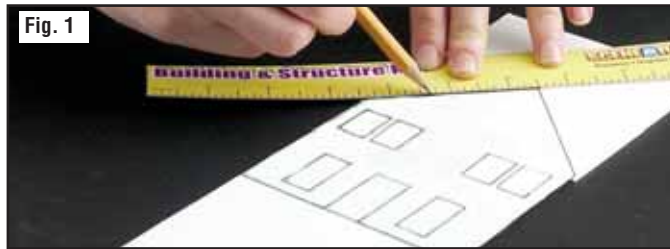

Fig. 1
- Sketch brick or block pattern on Project Board using pencil and ruler, then trace over pencil lines with fine-point marker (Fig. 1).